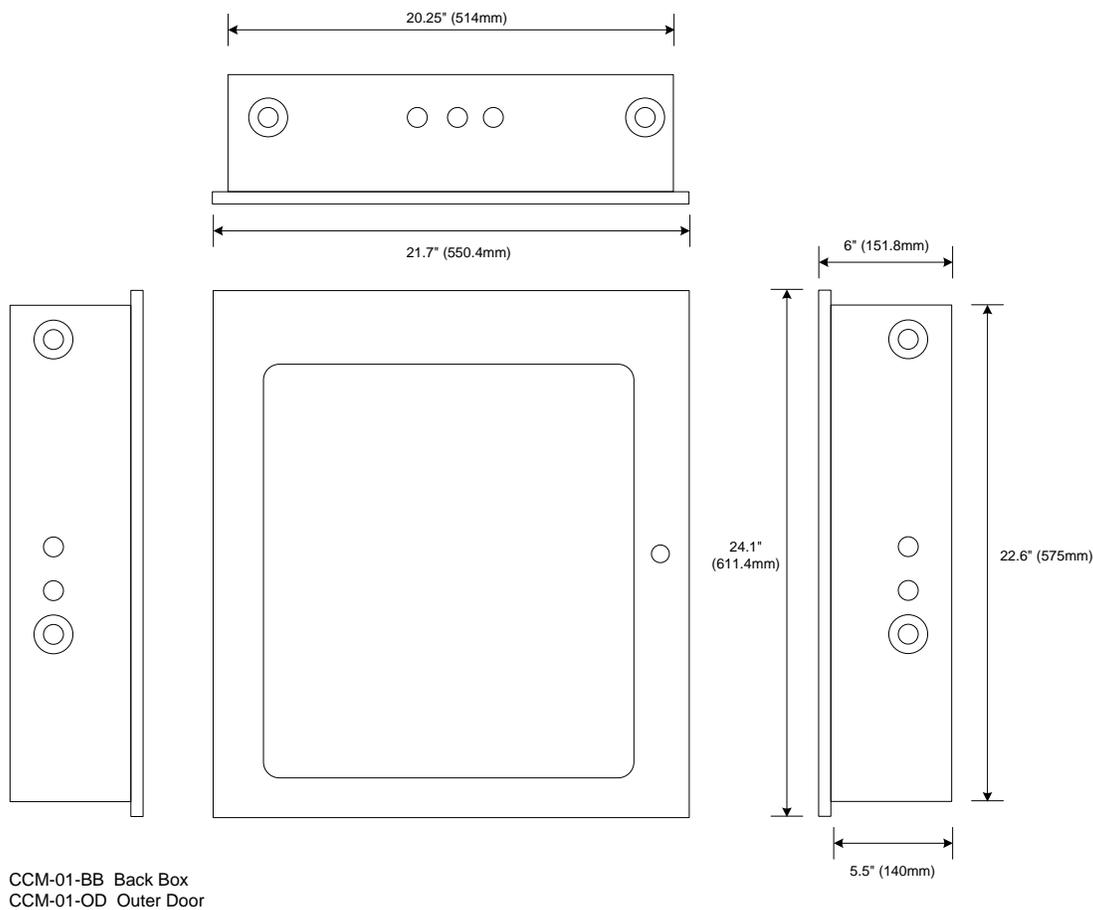

Figure 3 - NX-CC[x]-16 and NX-CC01 Enclosure Dimensions
**Note: The NX-CC01-BB-BB back box includes seven single knockouts (7/8") and seven double knocks (7/8" or 1 3/4", two located on the bottom of the back box). Care should be taken when utilizing the inner 7/8" knockout of the 1 3/4" to avoid knocking out the 1 3/4" (see figure 3).**